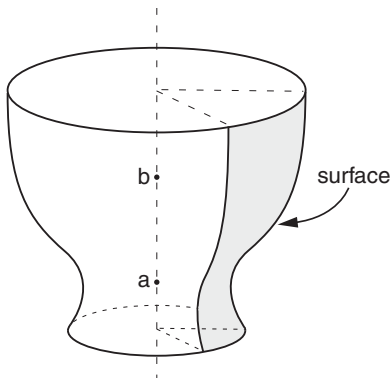

Figure 2: Three-dimensional circumferential smoothing.
Data line to define smoothing on regions of surfaces that correspond (or nearly correspond) to a surface of revolution (see Figure 2):
7. Global X-coordinate of point b on the approximate axis of revolution for the surface (see Figure 2).